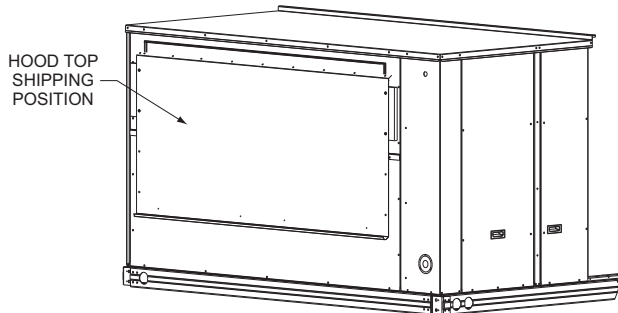
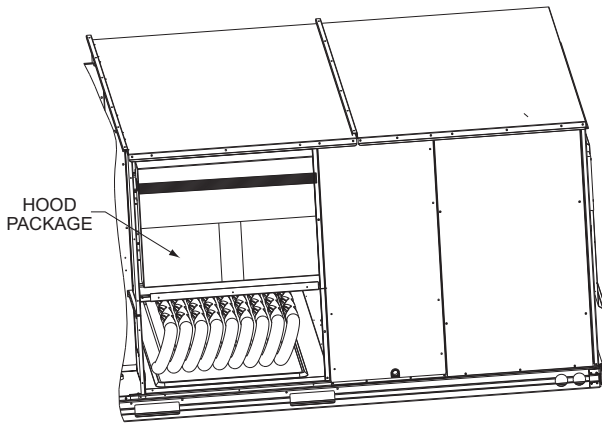

Fig. 12 — Hood Top — Shipping Position
Fig. 13 — Hood Package — Shipping Location
Step 7 — Install Outside Air Hood (Factory-Option) — The outside air hood for factory-option economizer and two-position damper is shipped in knock-down form and requires field assembly. The panel for the hood top is shipped on the end of the unit (see Fig. 12). The remaining parts for the hood assembly (including side panels, filters and tracks) are shipped in a carton that is secured to the rear of the blower assembly. Access the carton location through rear panel (see Fig. 13).